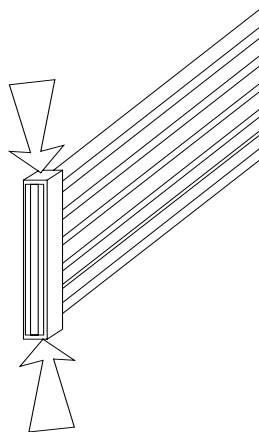

Figure 16. Remove the ribbon cable by gripping the connector.
3. Before removing the CPU board, it will be necessary to disconnect the ribbon cables marked GPIB and I/O Control Jack J4 since these cables will obstruct the CPU board. Do not damage the cables and connectors. The cables are removed by gripping the short top and bottom edges of the connector, pulling from the top and bottom alternately (**Figure 16**). As with any connector, do not pull the ribbon cable, only the connector. Note the position of each of these connectors before disconnecting.